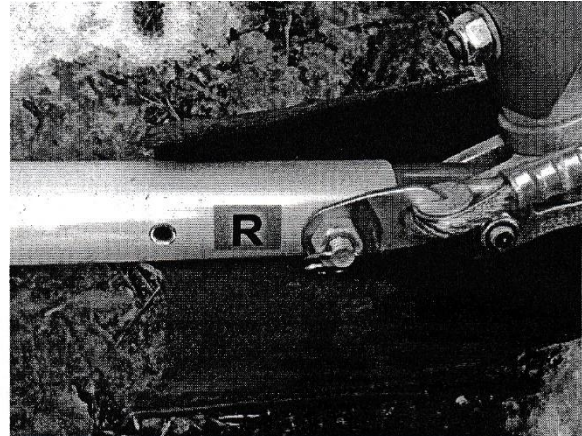

Figure 14
12. Attach the strut safety wires (left and right) to the base tube. Tighten the nut and secure with a safety ring (fig. 14).